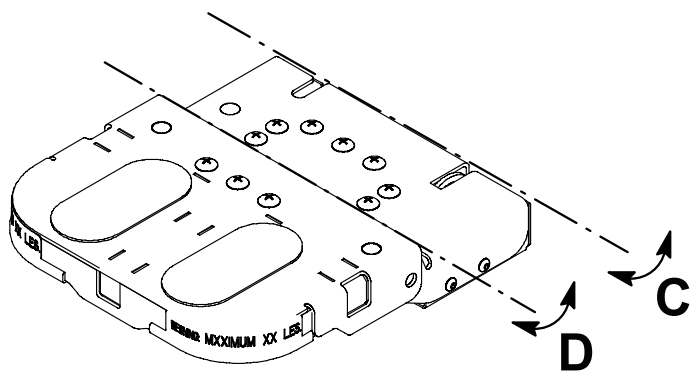
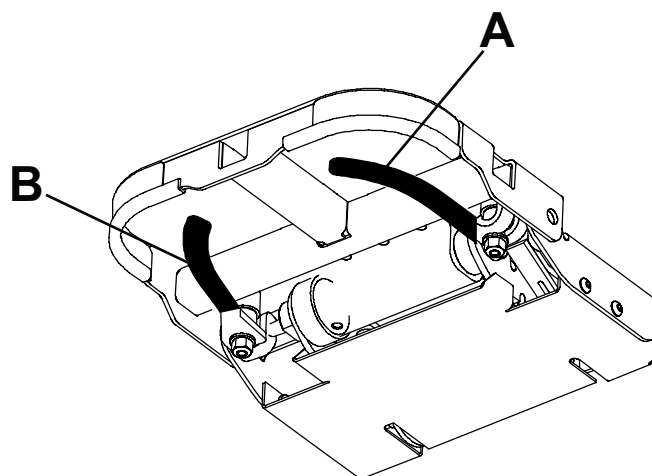

Figure 4 – Rotate the headpiece
Figure 5 – Handle locations
- Handle (A) (Figure 5) releases one latch and rotates the headpiece on axis (C) (Figure 4).
- Handle (B) (Figure 5) releases the other latch and rotates the headpiece on axis (D) (Figure 4).